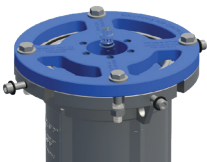

Figure 3
2.1.5 Insert 4 flange bolts into the 4 mounting holes of the pressure test plug assembly. Finger tighten a washer and nut onto each of the four bolts (see Figure 3).